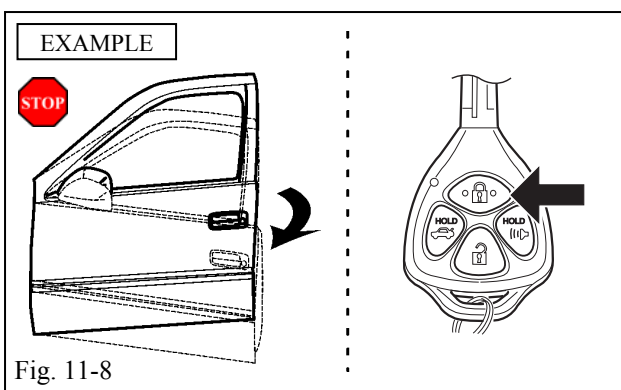

Fig. 11-8
- (l) Open the Driver's Door. (Fig. 11-8)
- (m) Using the Remote, press the Lock Button twice within 2 seconds. (Fig. 11-8)
- (n) Press and hold the lock button for 4 seconds. (Fig. 11-8)